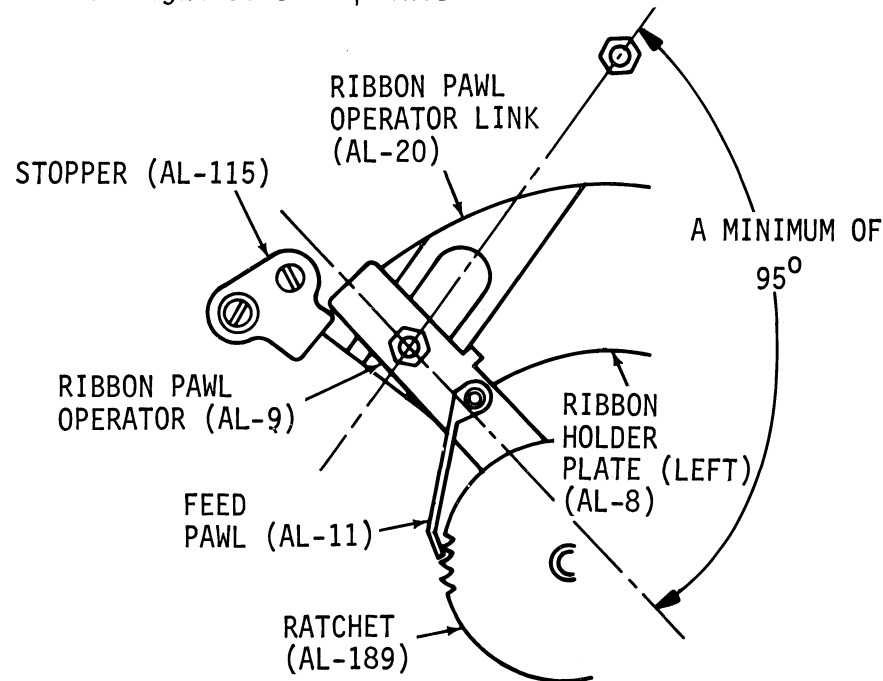

Figure 5-14. STOPPER ADJUSTMENT (AL-115), RIBBON MECHANISM (TOP VIEW)
- (b) With carriage in extreme right, run-out position, maintain an angle of more than 95 degrees, minimum, (refer to Figure 5-14) between ribbon pawl operator link (L) (AL-20) and ribbon pawl operator (L) (AL-9).